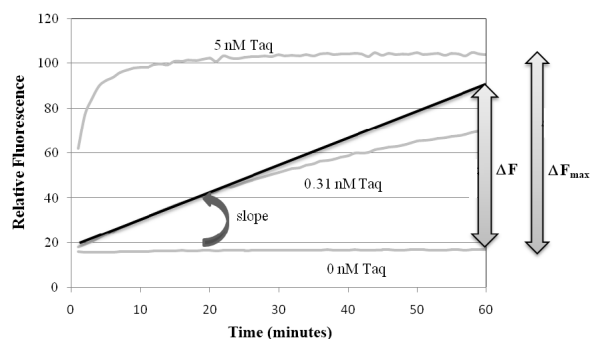

Figure 5. Activity determination based on the number of nucleotides synthesized.
2. Select an enzyme concentration from the dilution series that is in the linear response region and determine the slope of the initial fluorescence change as described in Protocol A. By definition, as shown in Figure 5: